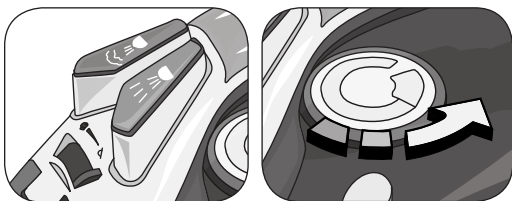

Fig. 2
Set the steam control knob (C) onto "☼" (Fig. 2).
Position the temperature adjustment knob (K) on position ☼ or higher. When the temperature control lamp (J) turns off, move the steam adjustment selector (C) to the desired position. You get maximum steam dispensing by moving the selector to the ☼ position. Steam is not dispensed when it is moved to ☼ (Fig. 2).